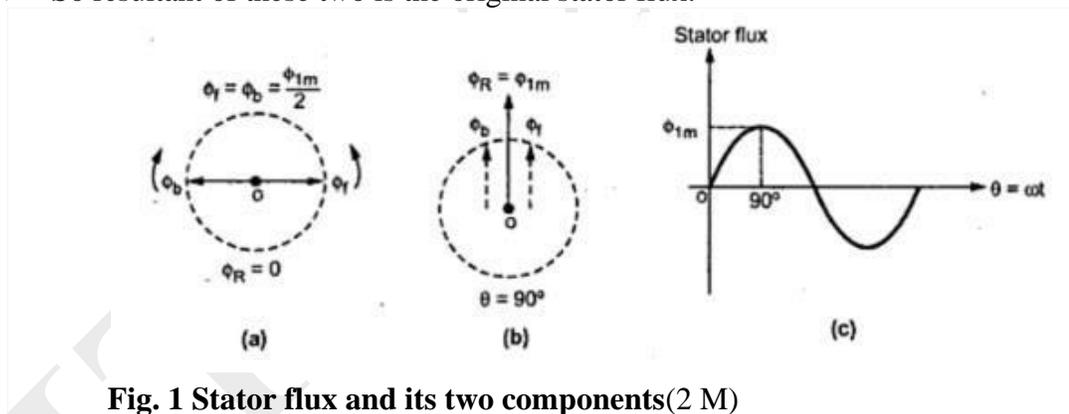

Fig. 1 Stator flux and its two components(2 M)
- The Fig. 1 shows the stator flux and its two components Φ_f and Φ_b .
- At start both the components are shown opposite to each other in the Fig.1(a).
- After 90° , as shown in the Fig. 1(b), the two components are rotated in such a way that both are pointing in the same direction.
- This is nothing but the instantaneous value of the stator flux at $\theta = 90^\circ$ as shown in the Fig 1(c).